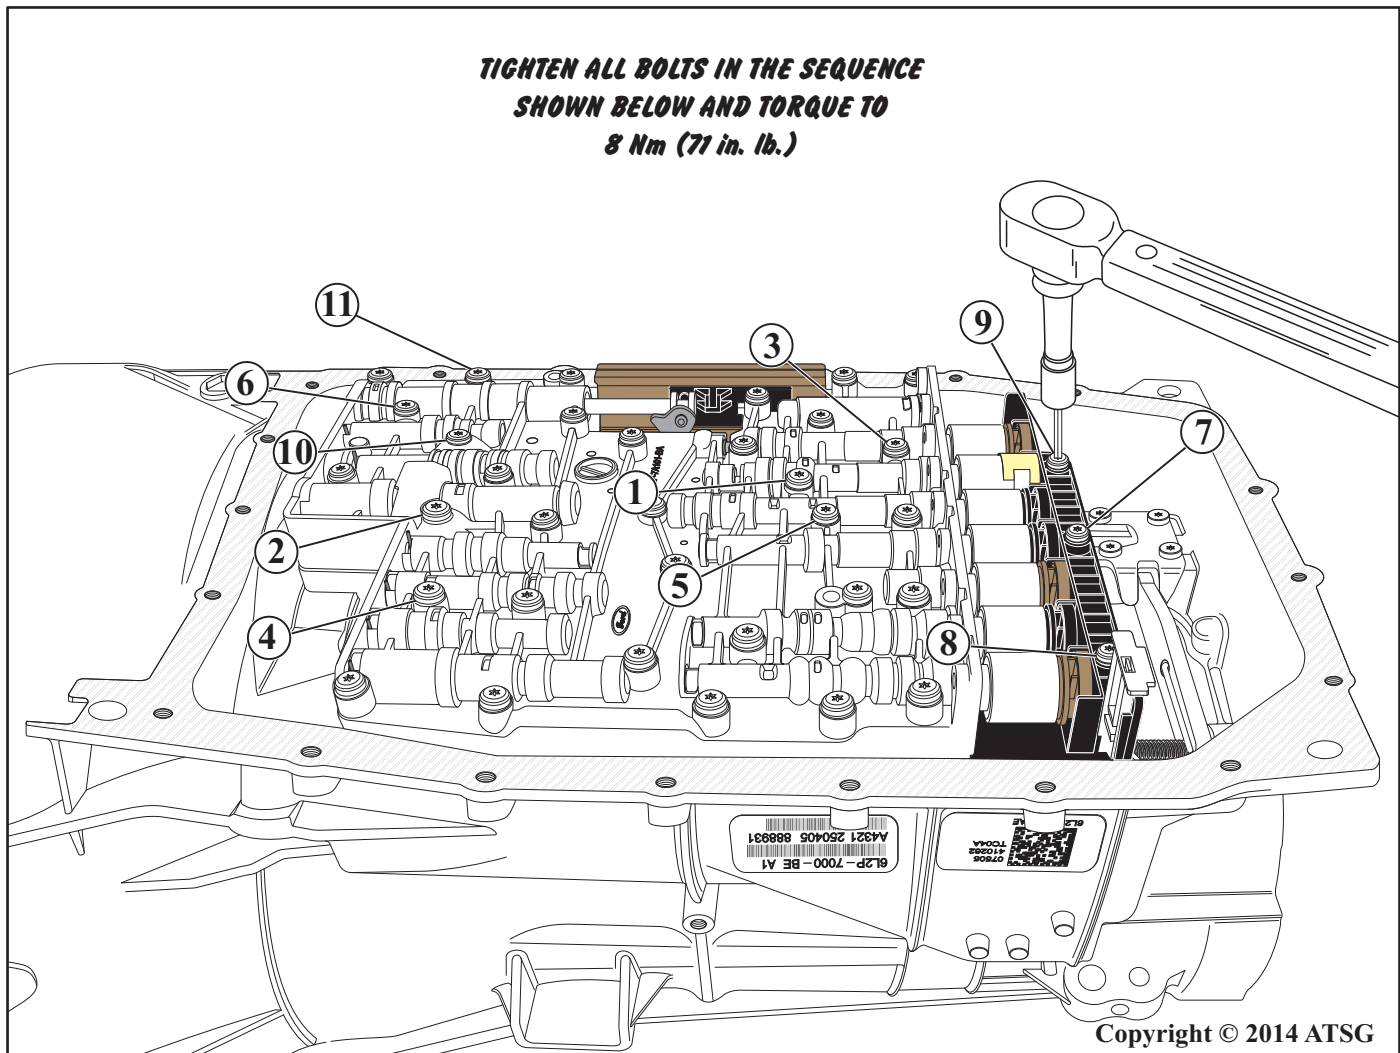

Figure 155
66. Tighten the eleven mechatronic/main control valve assembly attaching bolts in the sequence shown in Figure 155.